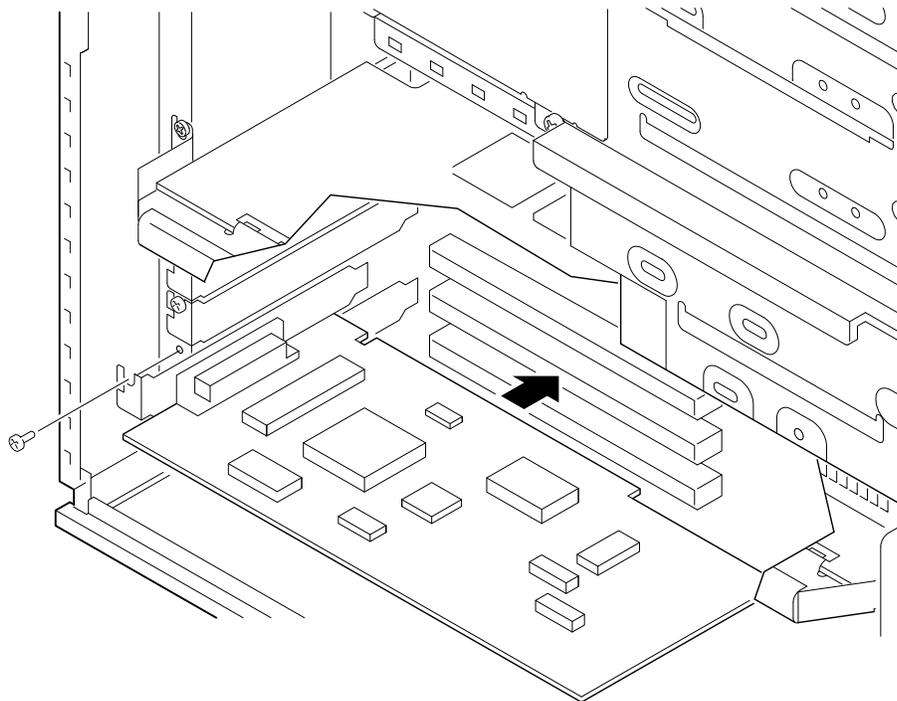

Figure 4-7. Installing an Expansion Board
4. Insert the new expansion board into the appropriate motherboard socket. Push the board firmly into the socket (Figure 4-7).